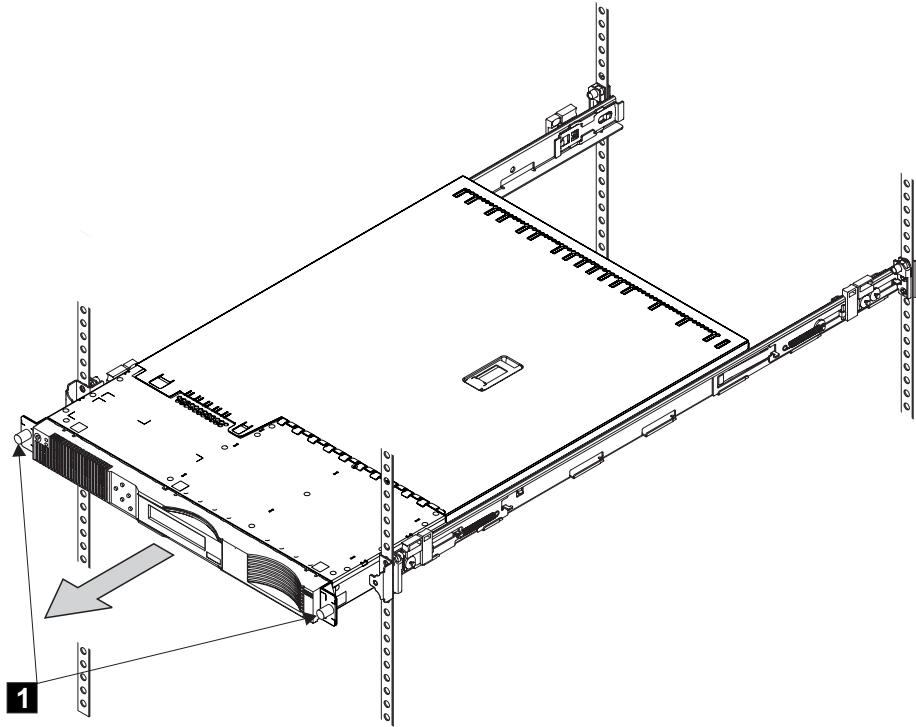

Figure 32. Unscrewing the front screws
2. Refer to Figure 32 on page 162